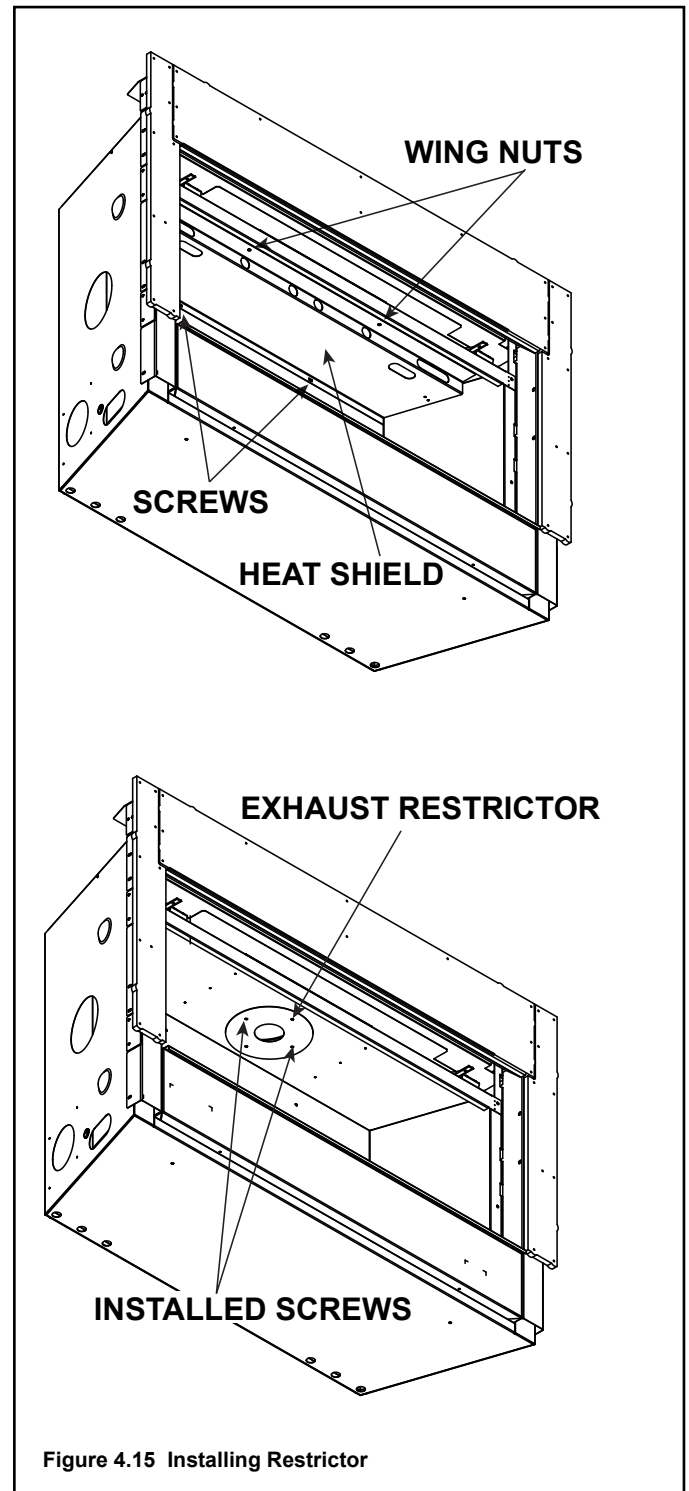

Figure 4.15 Installing Restrictor
2. **JADE32IN/JADE42IN/JADE42IL:** Center the exhaust restrictor in the open end of the exhaust outlet and secure through the slots on the exhaust restrictor with the two 1/4 in. self-tapping screws provided in the appliance manual bag. See Figure 4.15.